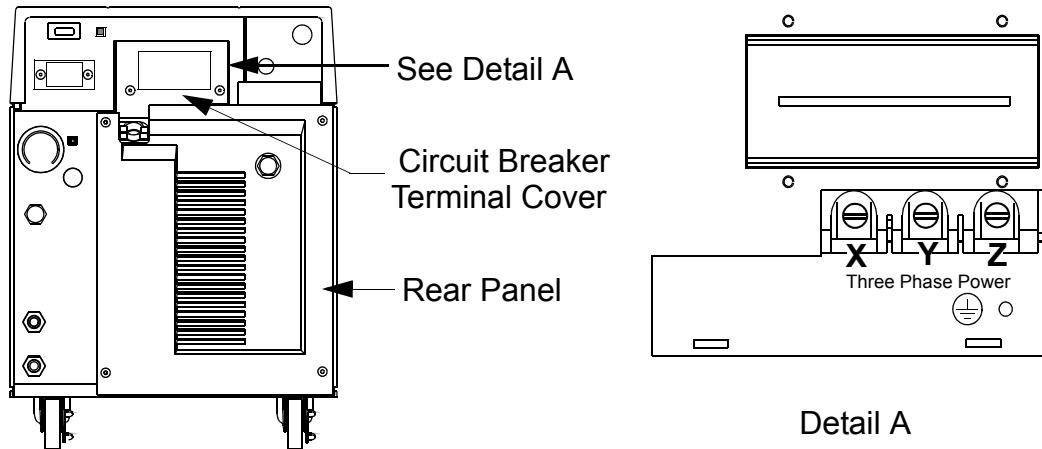

Figure 3-2: 9650 Compressor Circuit Breaker Terminals (Cover Removed)
5. Remove the rear panel as shown in Figure 3-2.
6. Remove the circuit breaker terminal cover as shown in Figure 3-2.
9. Remove the screws from the Compressor circuit breaker terminals X, Y, and Z as shown in Figure 3-2.
***NOTE:** For installation where one of the three phase legs is at or near ground potential, connect that leg to terminal Y on the Compressor as shown in Figure 3-2.*
10. Install the conductor terminal lugs to the circuit breaker terminals X, Y, and Z as shown in Figure 3-2.